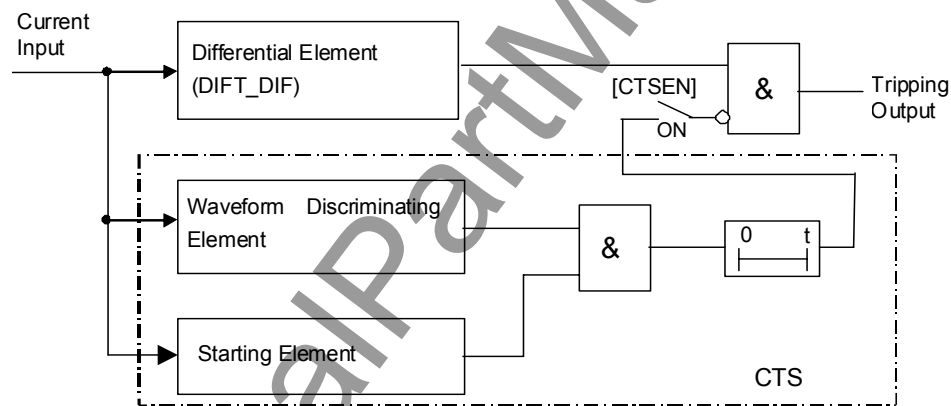

Figure 2.3.2.1 Differential Element with CT Saturation Countermeasure
Figure 2.3.2.1 shows a block diagram of the CT saturation countermeasure (CTS). The CTS has a waveform discriminating element (WDE) and starting element (SE). WDE operates if the change in the instantaneous value of the differential current is less than a specified percentage of the change in the instantaneous value of the restraining current. In the CTs non-saturated period, the differential current is theoretically zero for through-fault currents. The element operates in this period.